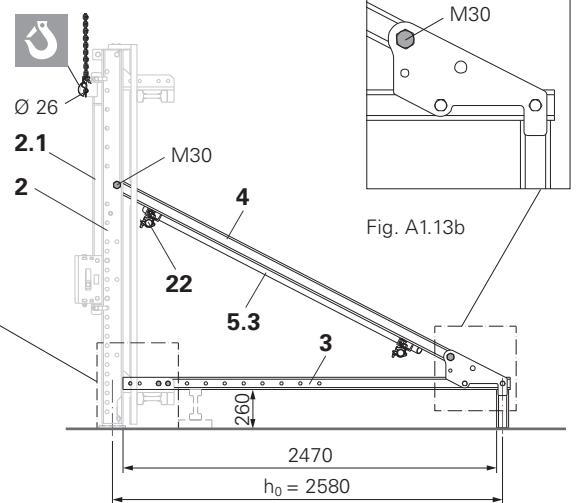

Fig. A1.13
- Depending on the planned static height h_0 , the various M20 and M30 screw positions for connecting the crossbeams and diagonal struts to the vertical struts must be taken into consideration. (Fig. A1.13 / A1.14)
(Fig. A1.13 or A1.14)